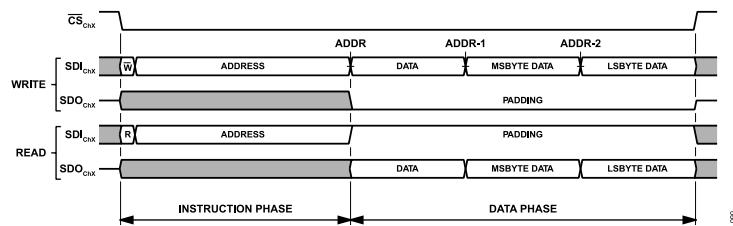
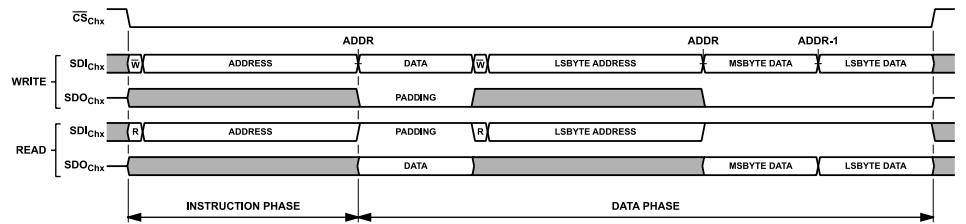
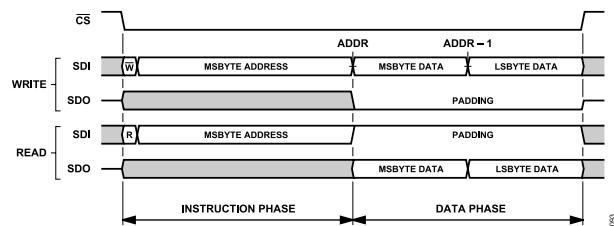
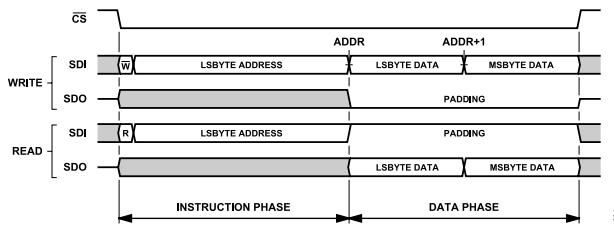

Figure 91. Interface Access Example, Default Interface Configuration, Streaming Mode (ADDR\_ASCENSION = 0)
Figure 92. Interface Access Example, Single Instruction Mode (SINGLE\_INST = 1), All Other Interface Options Default
Figure 94. Single Instruction Format, **ADDR\_ASCENSION** = 0 (Descend), **STRICT\_REGISTER\_ACCESS** = 1 (Enabled)
Figure 95. Single Instruction Format, **ADDR\_ASCENSION** = 1 (Increment), **STRICT\_REGISTER\_ACCESS** = 1 (Enabled)
Figure 91 shows the generic SPI frame formatting for a serial transaction using the default interface configuration. In this example, a portion of the configuration register space consisting of a byte-wide register and a multibyte register is accessed. The address for the byte-wide register resides in the most significant address
The address ascension selection (ADDR\_ASCENSION) bit, as described in previous sections, determines how the internal interface address pointer is updated for each byte of data transmitted to the AD4884 channel in streaming mode (SINGLE\_INST = 0). If using single instruction mode (SINGLE\_INST = 1), each register is directly addressed through its own instruction phase, as shown in Figure 92, and thus, the address pointer is not updated. Regardless of the setting for SINGLE\_INST, the ADDR\_ASCENSION bit directly impacts the formatting of the SPI frame in terms of selection of the instruction phase starting address and byte order of the data phase payload. This impact is described in greater detail in the Strict Access Selection and Multibyte Registers section as much of the data formatting is dependent on this interface configuration selection. The ADDR\_ASCENSION selection bit is located in the Interface Configuration A register (see the Interface Configuration A Register section, Address 0x00).
In single instruction mode (SINGLE\_INST = 1), the memory access controller requires an instruction phase to transmit for each register accessed in a given SPI frame, as shown in Figure 92. This mode is useful when access to nonadjacent sections of the register space is required in a given SPI frame. Note that, the same access flexibility can be achieved in stream mode by initiating a new SPI frame for each unique register access.
As shown in Figure 94, the address counter, by default, automatically decrements (`ADDR_ASCENSION` = 0) such that the most significant byte of the multibyte register is accessed first, followed by the remaining byte(s) in that register in ascending order. Conversely, if `ADDR_ASCENSION` = 1, the least significant byte of the multibyte register is accessed first followed by most significant byte.
As an extension of this concept, when `STRICT_REGISTER_ACCESS` = 1, any SPI frame that accesses a multibyte register as the first entity in the data transfer must correctly set the starting address in the instruction word to correspond to the `ADDR_ASCENSION` selection. In the case that the address counter automatically decrements (`ADDR_ASCENSION` = 0), the starting address is assigned to the register address for the most significant byte of that multibyte register, and conversely, if configured to increment automatically, the starting address must be set to the register address for the least significant byte. As a result of the change to `ADDR_ASCENSION` from automatic address decrement (0) to automatic increment (1), Figure 91 and Figure 92 change as shown in Figure 94 and Figure 95 to accommodate the changes in data phase byte order and instruction phase multibyte register start address.